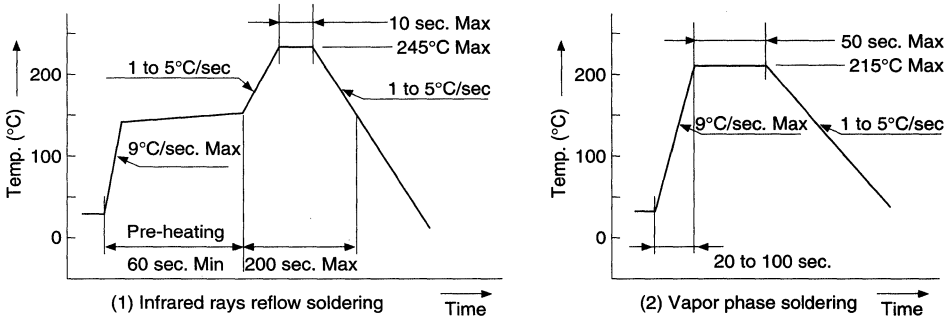

Fig. 2-6 Reflow Furnace Temperature Curve
- (1) Maintain the maximum temperature of the resin of the package at 245°C for not more than 10 seconds.
- (2) Maintain the outer surface of the reflow furnace temperature (resin surface temperature) at the curve shown in Fig. 2-6.
- (3) The resin on plastic flat packages is prone to absorb moisture. Even at room temperature, the amount of moisture absorbed increases with time. If a wet package is put in the solder-reflow furnace, the resin may crack or the adhesiveness of the resin to the frame may be decreased.
- (4) Items (1) through (3) are intended as a guideline based on our laboratory experience and are for reference only since packages will be stored in different environments and different types of reflow furnaces will be used. Thus, it is important that packages be checked for quality at the solder-reflow process before entering mass production.